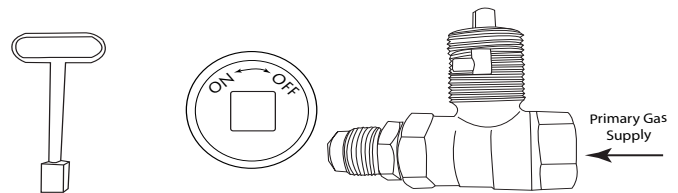

Fig. 32 Key valve components
The key valve contents: (1) key valve, (1) 12-inch key and (1) flange. See Fig. 32. The valve requires a 1 1/4" round clearance hole in the non-combustible enclosure wall. See the instructions supplied with the key valve for more specific details. **Note:** Be sure to leak test all fittings before operating.